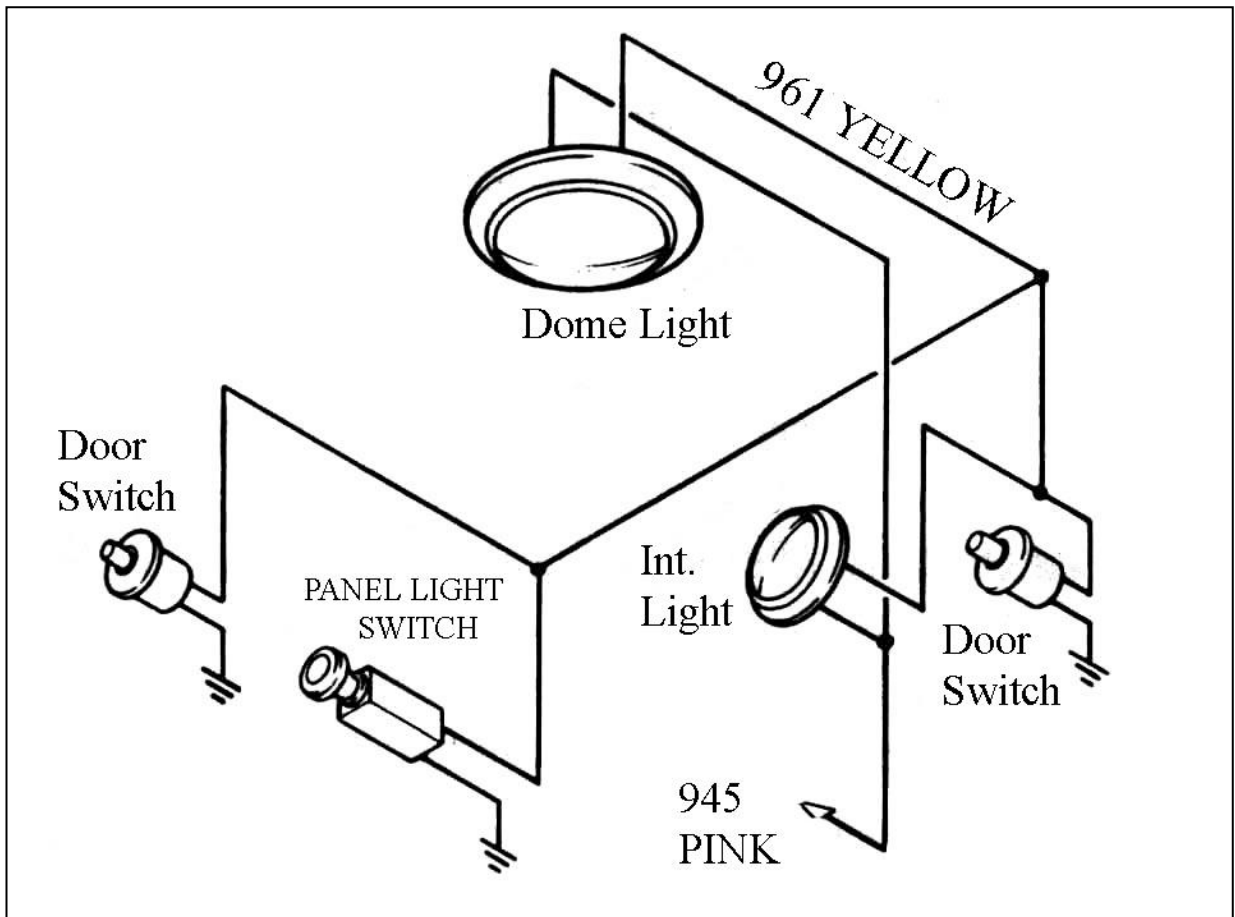

Figure 8-3 Interior Lighting
8.4 Interior Lighting. See Figure 8-3
- 8.4.1** Interior Lights are switched through the door switches and the dash panel light switch. These switches apply ground to the circuit. YOU WILL NEED TO SUPPLY THESE GROUND WIRES. 12V is continually present at the light bulbs. See **Figure 8-3**.